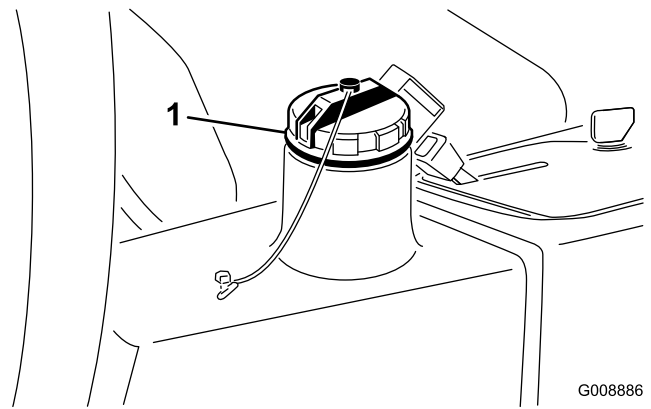

Figure 27
2. Clean the area around the filler neck and cap of the hydraulic tank (Figure 27). Remove the cap.